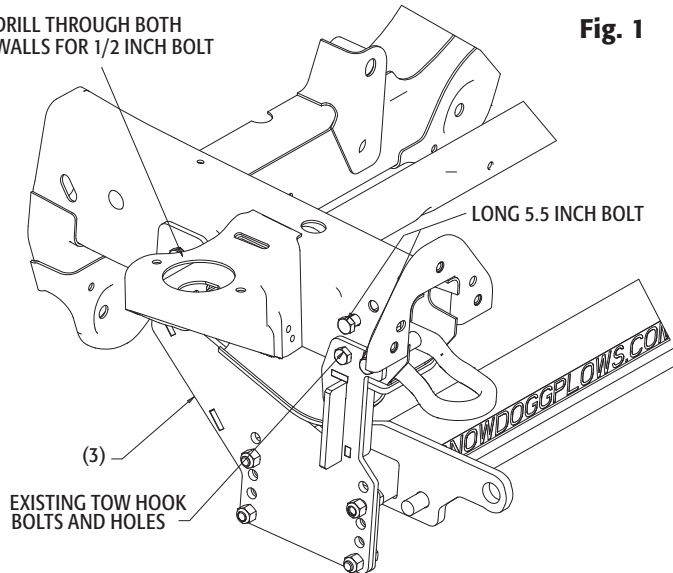

Fig. 1
7. Using the **MOUNT PLATE** (3) as a template, drill $\varnothing.531$ hole for the rear bracket thru both walls of the frame as shown in the Fig 1 and Fig 2.
8. Install one 1/2"-13x5" **HEX HEAD BOLT** (4) and one 1/2"-13 **LOCK NUT** (5). Do not over-tighten – do not deform the frame.
9. Repeat steps 3-8 for the DS Side Mount Plate (2).
10. Mount the **PUSHBAR** (1) in place between the two side plates using eight 1/2"-13x1-1/2" **HEX HEAD BOLTS** (6) and eight 1/2"-13 lock nuts (5). The centerline of the Pushbar Crosspin should be approximately 9" to 10" from the ground. The air dam of the vehicle may need to be altered to accommodate this height. Improper mounting height will result in uneven cutting edge wear.